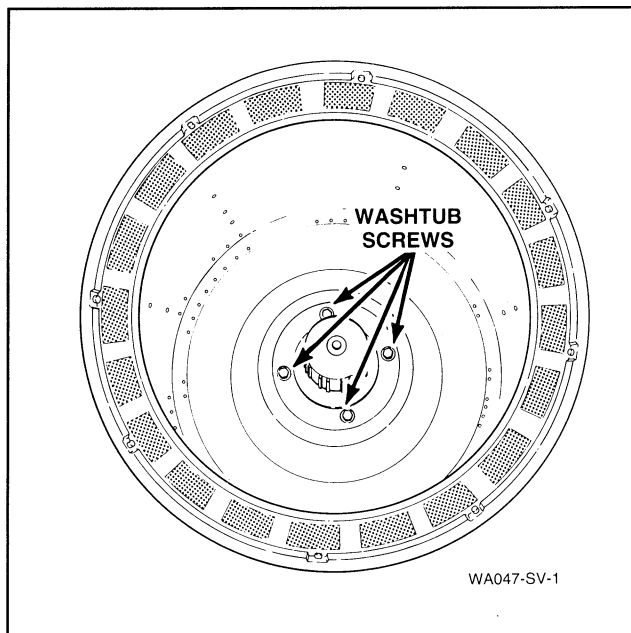

Figure 28
- Remove four screws and washers holding washtub to hub, *Figure 28*.
- g. Remove the four screws holding washtub to hub, *Figure 28*, then lift washtub out of outer tub.
- f. Remove four screws and washers holding washtub to hub, *Figure 28*.